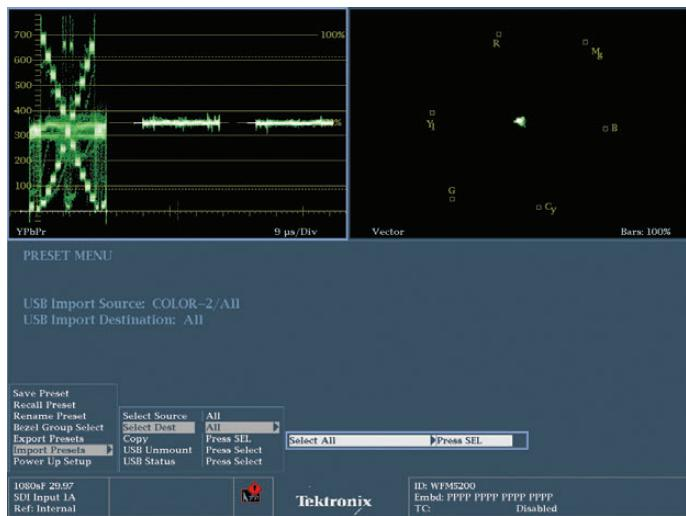

Figure 6-21. Configuring copying presets.
10. Use the down arrow to move down to the next option and choose Select All (Figure 6-21).